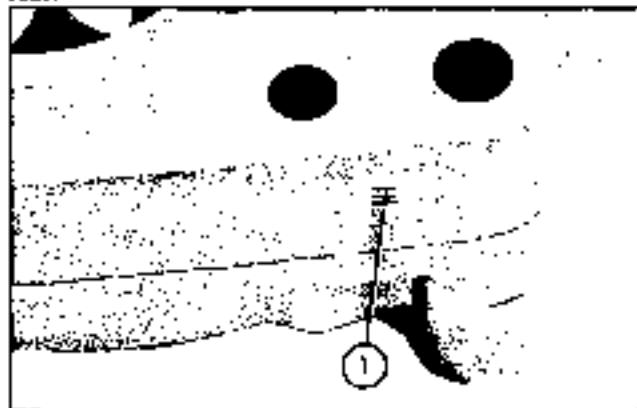

Fig. 37
Loosen jam nuts (30) and turn chain anchor rods (29) into anchors (27) approximately 1-1/4 inches (item 1, Fig. 37). Secure rods in anchors with jam nuts.
Adjust nuts (item 2, Fig. 37) on lower end of anchor rod to obtain a fork-to-floor clearance of 0 to 3/4 inch (item 3, Fig. 37). Make this adjustment on both sides. Keep nuts on lower end of anchor rod as near as possible to end so rods will not protrude below cylinder base.
Raise mast to maximum height and check to be sure a clearance of at least 1/8" exists between stop blocks (item 4, Fig. 37). If stop blocks are contacting each other, re-adjust nuts on lower end of anchor rod (lengthen chains) to obtain a clearance of at least 1/8 inch.